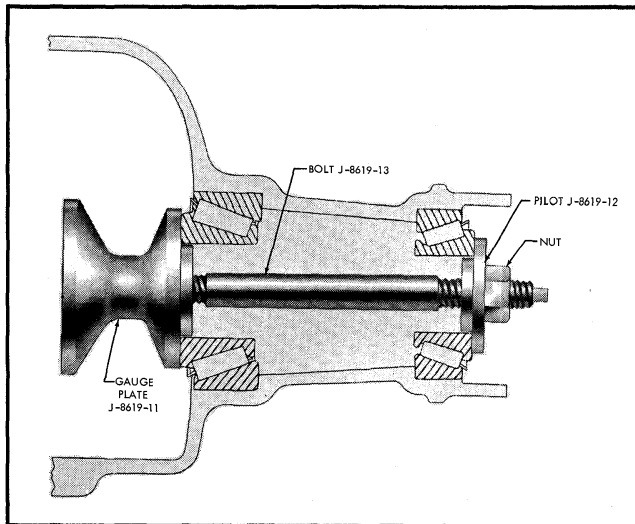

Fig. 4-36 Securing Gauge Plate in Carrier
6. Lubricate front and rear pinion bearings; then position them in their respective races in the carrier. While holding bearings in place, install gauge plate J-8619-11 in carrier on rear pinion bearing inner race and place pilot on surface of front pinion bearing. Insert stud J-8619-13 through pilot, front and rear bearings and thread it into gauge plate. See Fig. 4-36.